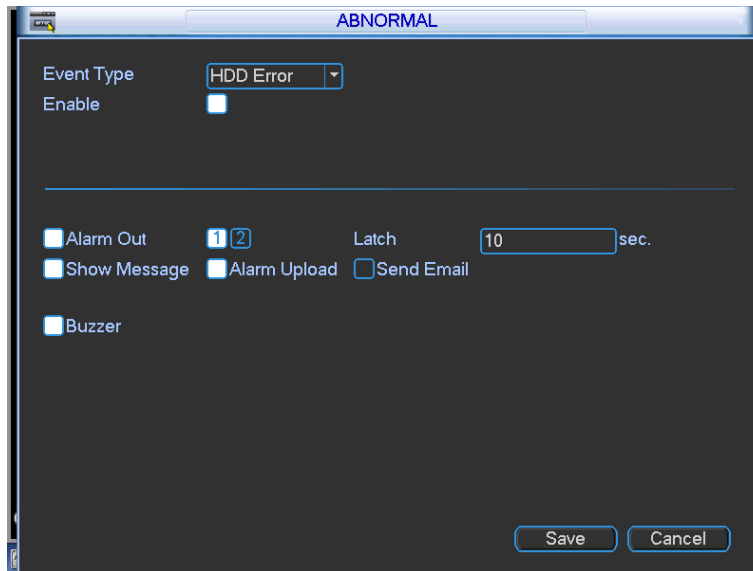

Figure 4-71
- Alarm set: Click alarm set button, the interface is shown as below. See Figure 4-71. (This interface is just like the abnormality setup). Please refer to chapter 4.8.6 for detailed information.